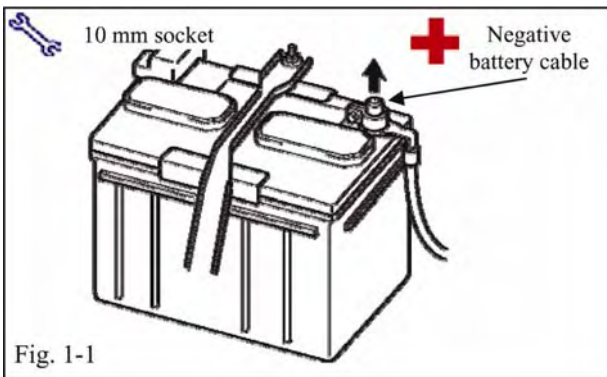

Fig. 1-1
1. Vehicle Protection (Fig. 1-1)